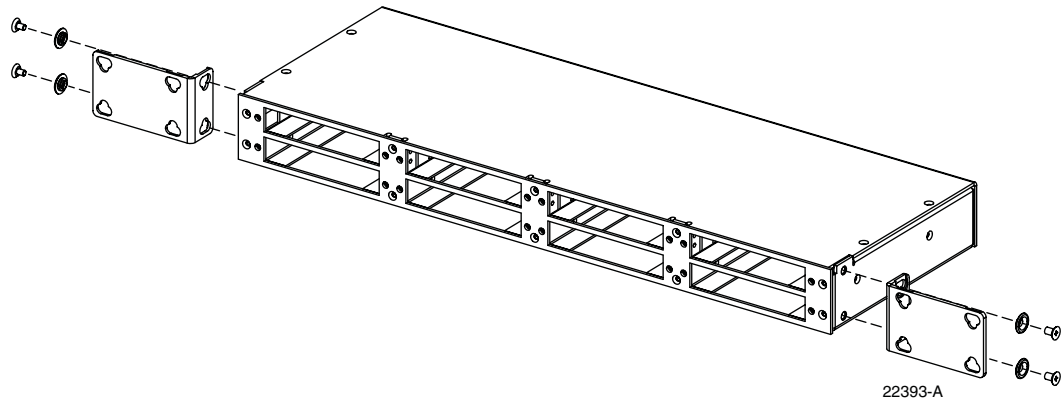

Figure 9. Installing the Replacement Mounting Brackets
3. Reinstall both mounting brackets so the short side of the bracket is flush with the front panel as shown in as shown in Figure 9. Use the screws removed in Step 2 to attach the new brackets to the mounting shelf.